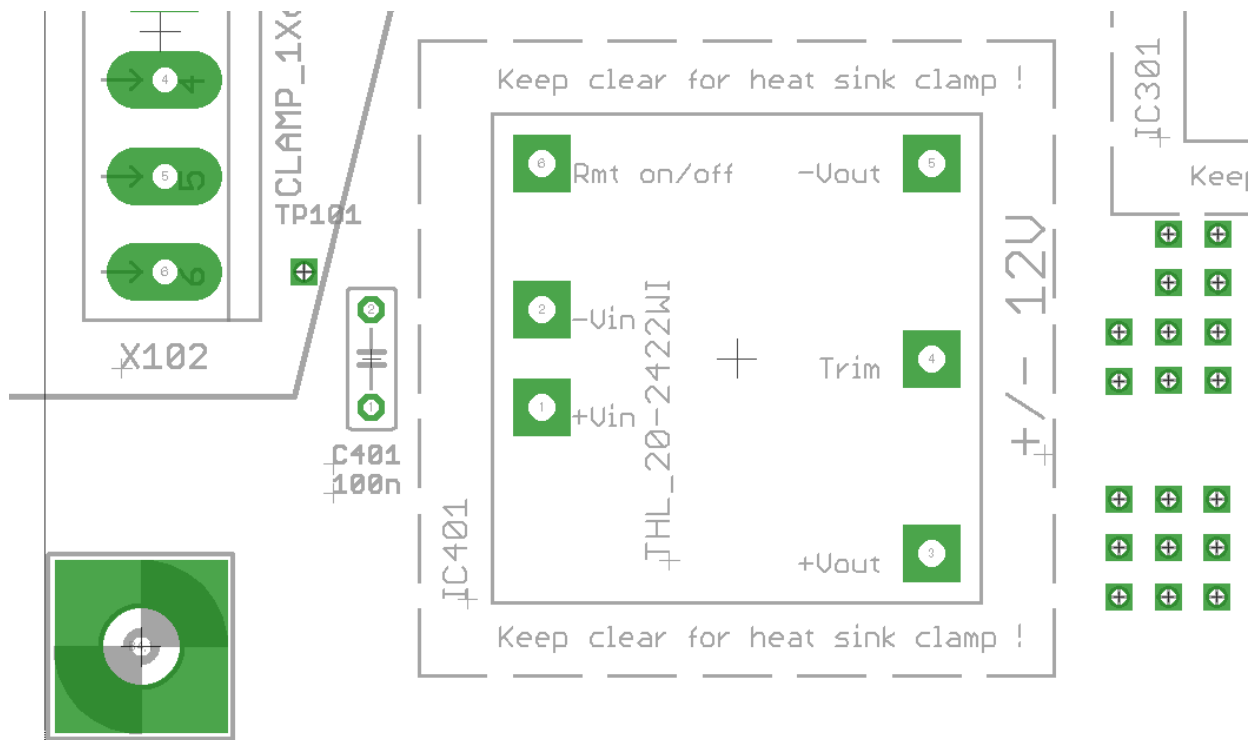

Figure 20: Clearance for Heatsink of a DC/DC Converter
2. Consider heat sinks and other accessories that usually require more space than you think (Figure 20).